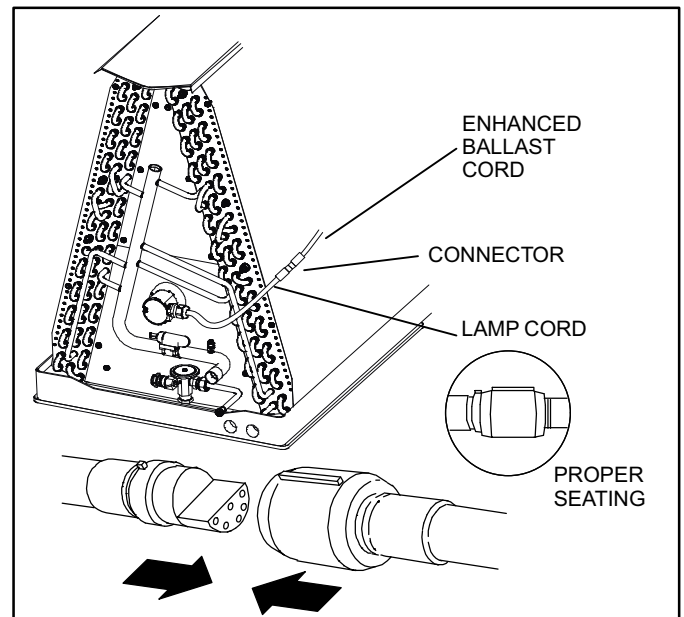

Figure 11. Connect Lamp Cord to Enhanced Ballast Cord (Connector)
7. Connect the lamp holder cord's quick connect to the mating enhanced ballast connector (see figure 11).